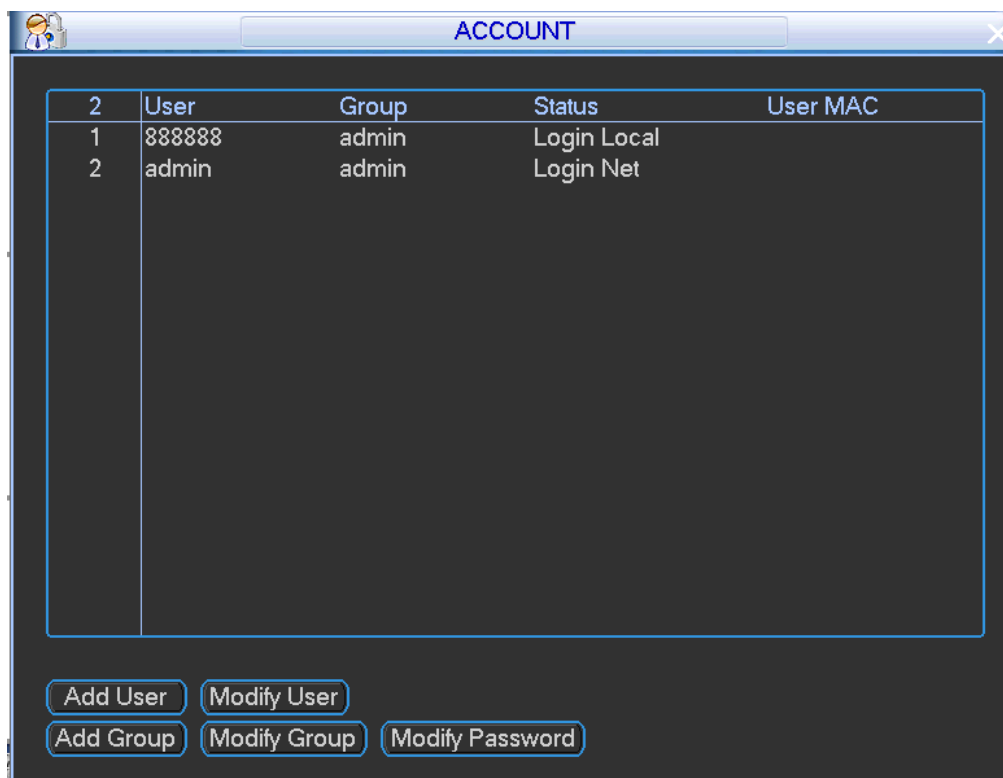

Figure 4-66
Step 1 From main menu->Setting->System->Account->User, enter user interface. See Figure 4-66.